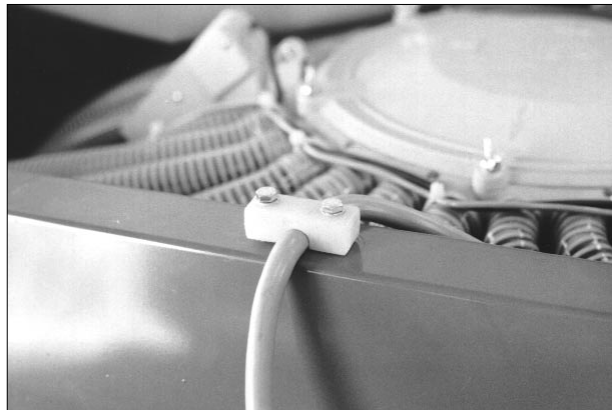

Fig. 21-5
- If the signal distribution box is inside the seed hopper, screw the strain relief cleat to the top edge of the seed hopper (see fig. 21-5).